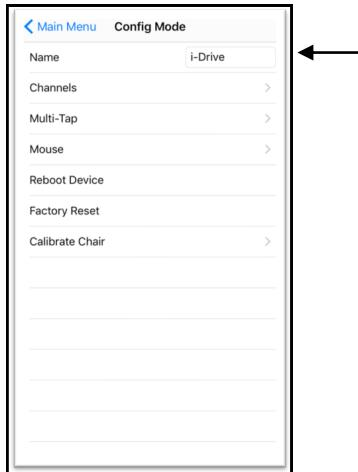

Figure 3
1. In the *Main Menu*, Select *Config Mode* (*Figure 3*). Like the Advanced Programming Software on your PC or tablet, channel assignments, double tap settings, and other sensor settings are adjusted here.